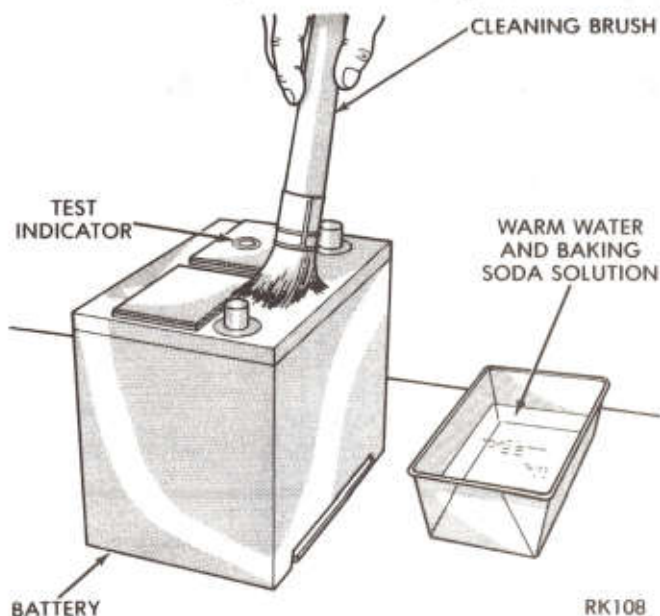

Fig. 4—Cleaning Battery
(4) Clean top of battery with a solution of clean warm water and baking soda. Scrub area with a stiff bristle brush and wipe off with a cloth moistened with ammonia or baking soda in water (Fig. 4).